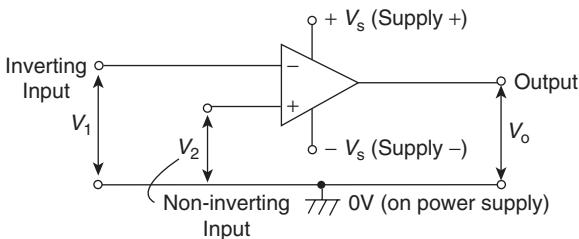

Figure 19.1
- (iii) a very low output impedance, around  $100 \Omega$ , such that its output voltage is transferred efficiently to any load greater than a few kilohms. The **circuit diagram symbol** for an op amp is shown in Fig. 19.1 It has one output,  $V_o$ , and two inputs; the **inverting input**,  $V_1$  is marked  $-$ , and the **non-inverting input**,  $V_2$ , is marked  $+$